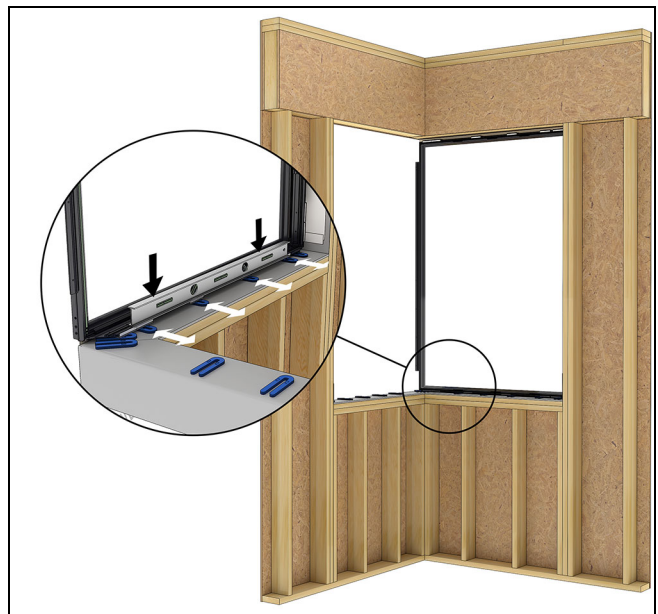

Figure 39
3. Level at the sill and plumb the unit. Adjust shims under the sill to level if necessary. See Figure 39.